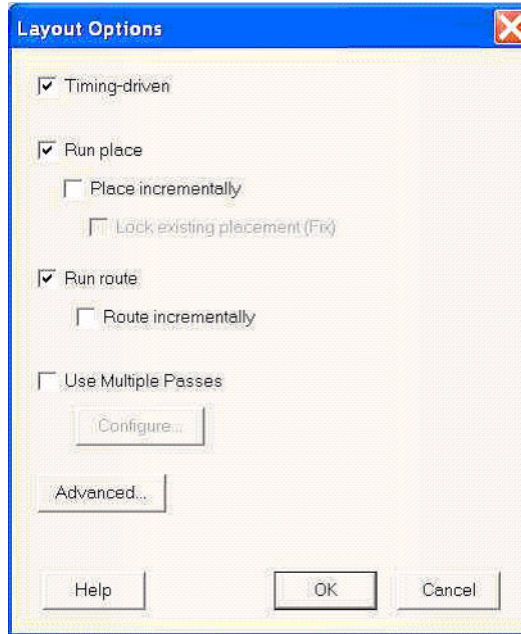

Figure 7-35. Layout Options Dialog Box
12. In Designer, click Layout. This opens the Layout Options dialog box shown in Figure 7-35.